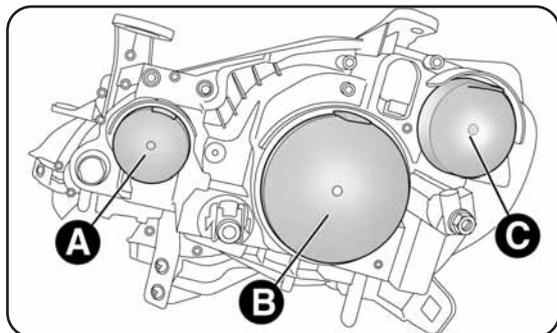

fig. 15
FRONT LIGHT CLUSTERS fig. 15
- remove the protective cover B-fig. 15;
- refit the protective cover B-fig. 15.
- remove the protective cover A-fig. 15;
- refit the protective cover A-fig. 15.
- remove the protective cover C-fig. 15;